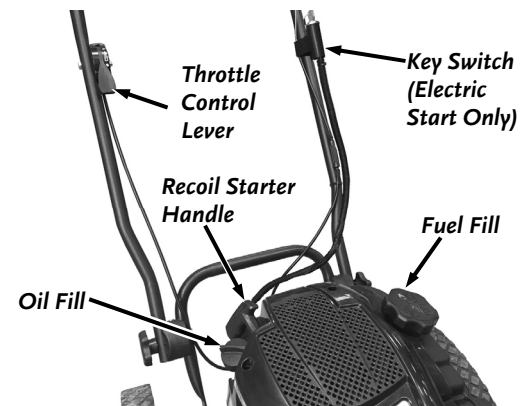

Figure 13
1. Check the oil level every time you use the DR TRIMMER/MOWER (**Figure 13**).
1. Push the Throttle Control Lever all the way forward to the Run  position (**Figure 13**).
- If the engine fails to start after TEN (10) seconds of continuous cranking, turn the key to the off position and allow the starter motor to cool. Check the cause of hard starting; See Chapter 5 - Troubleshooting.